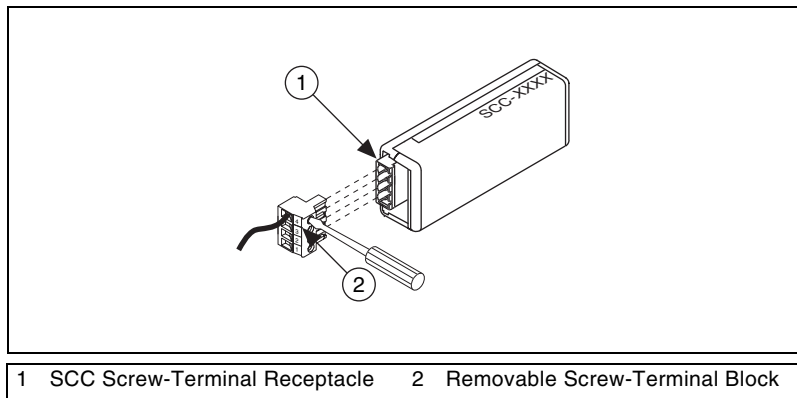

Figure 13. SCC-XX Two-Part Screw-Terminal System
3. Insert the conductors into the screw terminals. The SCC-XX module has a fixed screw-terminal receptacle and a removable screw-terminal block, as shown in Figure 13.